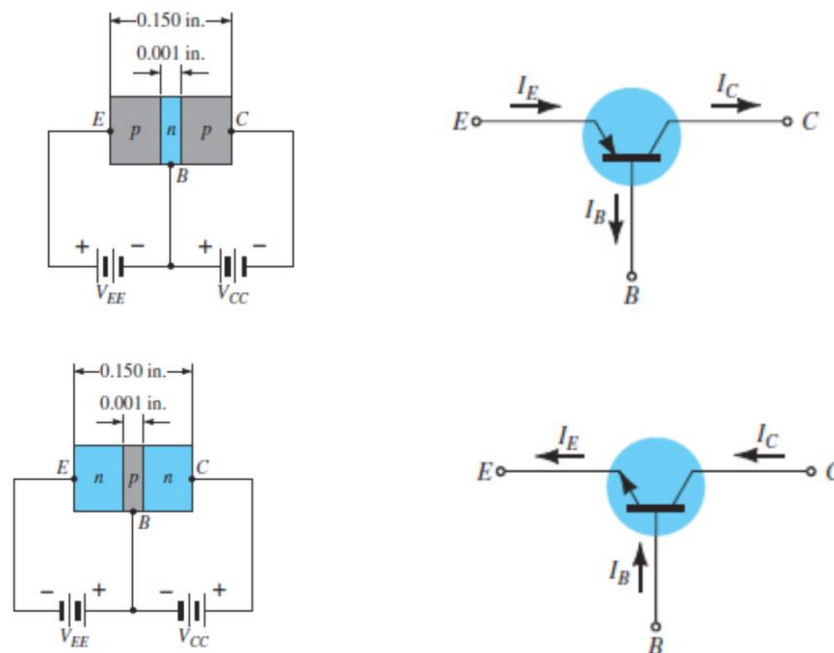

Fig 1.9. Transistor schematic and symbol
Bipolar junction transistor (BJT): It is a semiconductor device similar to pn diode. It is a three layer device consisting of either two n-type and one p-type (npn) or two p-type and one n-type material (pnp) with two junctions and three terminals. The terminals are Emitter (E), Base(B) and Collector(C). The two junctions are Emitter – Base (EB) junction and Collector – Base (CB) junction. The emitter layer is heavily doped, base is lightly doped and collector is moderately doped. Both holes and electrons contribute to the flow of current and hence the name bipolar junction transistor. The schematic and the symbol are shown in Fig 1.9.